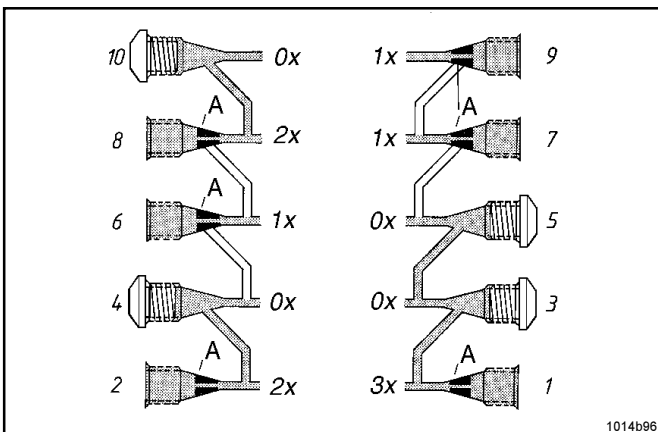

Fig. 21 - Single, double and triple lubricant output
- As shown in Fig. 21, outlet borehole 10 has been closed. The lubricant quantity supplied by this outlet flows out of the metering device via outlet 8.
- If a triple quantity is needed (at outlet 1), close the outlet borehole located above the discharge borehole. Refer to outlets 3 and 5 on Fig. 21.